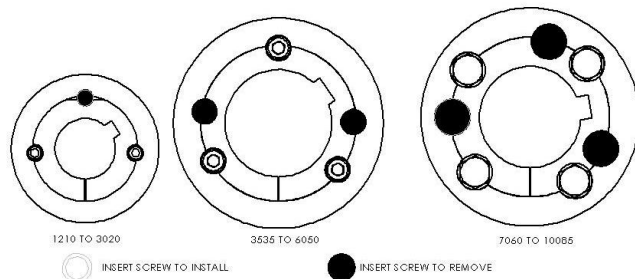

Figure 1
2. Insert screws in holes as indicated in Figure 1.